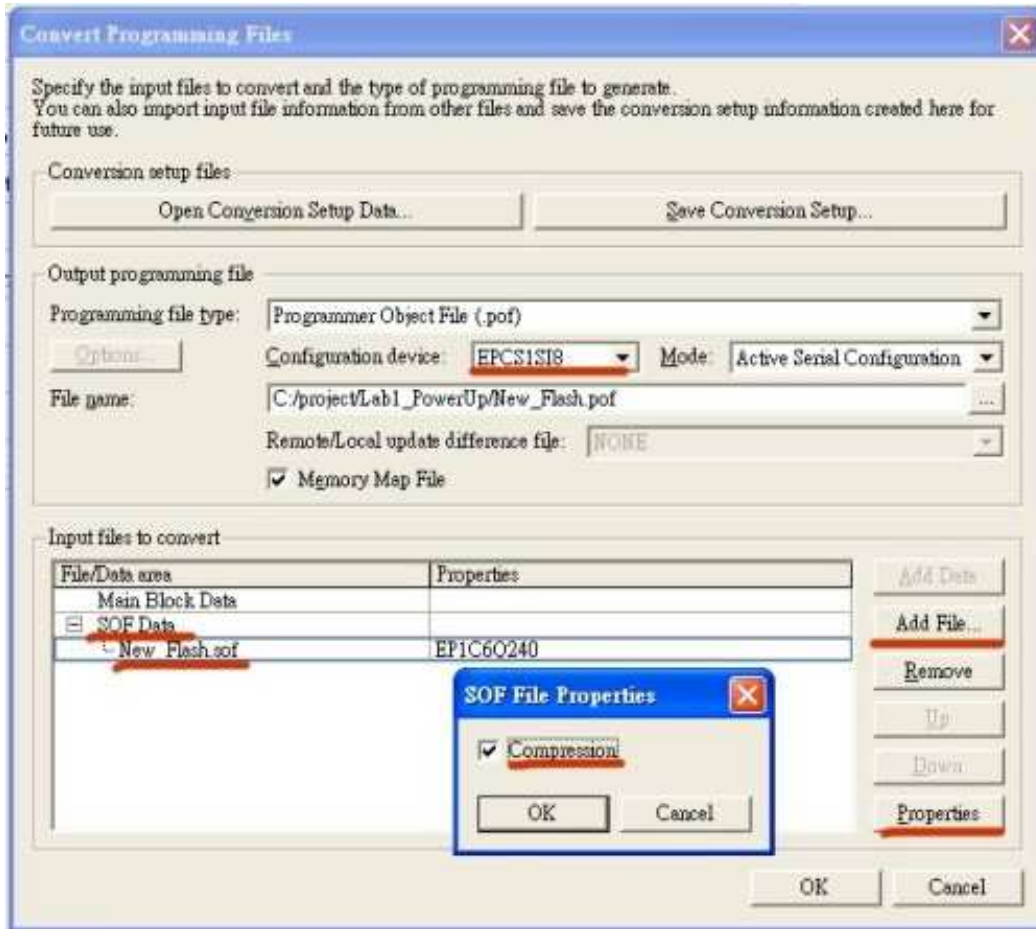

Figure 4.6. Convert Programming Files
2. Refer to Figure 4.6. In the Convert Programming Files Menu, Select EPCS1S18 as our configuration devices; change the output File name to your desired name with POF extension.